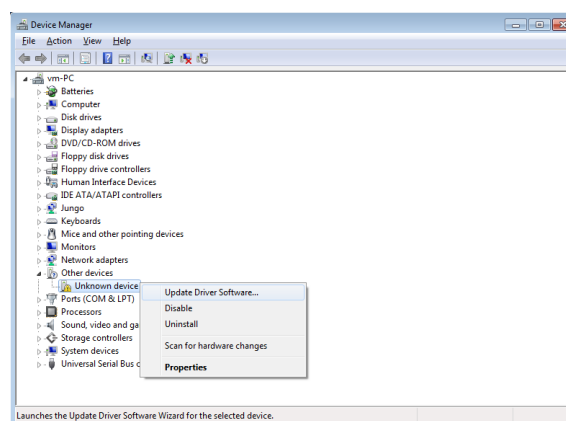

Figure 4.4.
2. In the device manager, find the unknown device. Right click on it to open the menu and choose '**Update Driver Software...**' as Figure 4.4 shows.